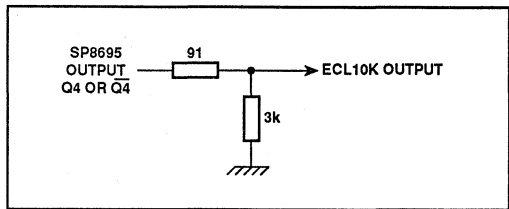

Fig. 8 Interfacing SP8695 output to ECL10K
- The Q4 and Q4 ECL outputs have internal circuitry equivalent to a 14kΩ pulldown resistor on each output and are ECLII compatible; they can, however, be interfaced to ECLIII/ 10K as shown in Fig. 8.